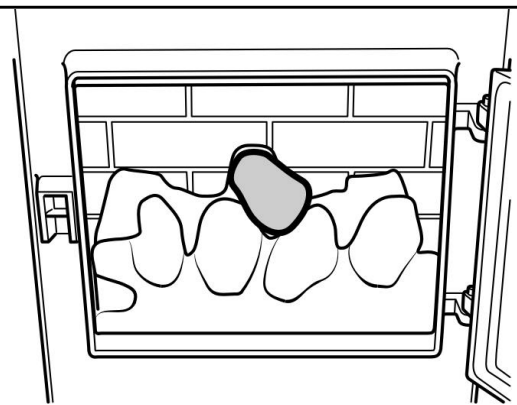

Figure 8.
6. Locate one of the ceramic coals identified with a number '1' as in figure 8.